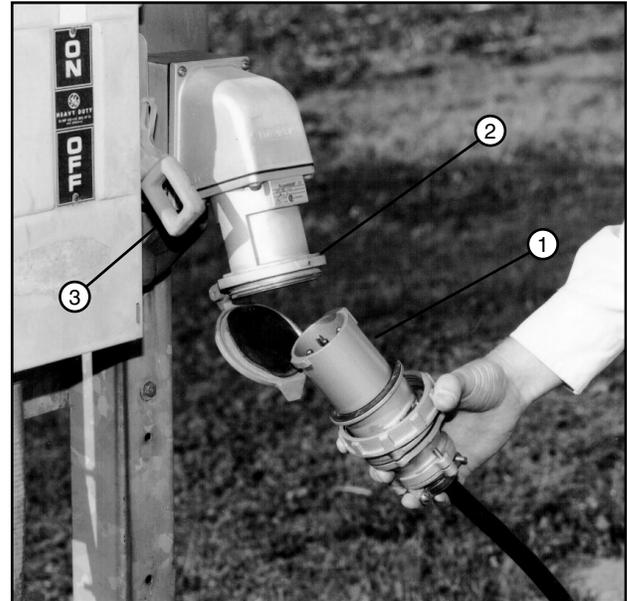

Figure 51-1 1. Power Plug
25. Plug the power plug into the receptacle. See Figure 51-1.